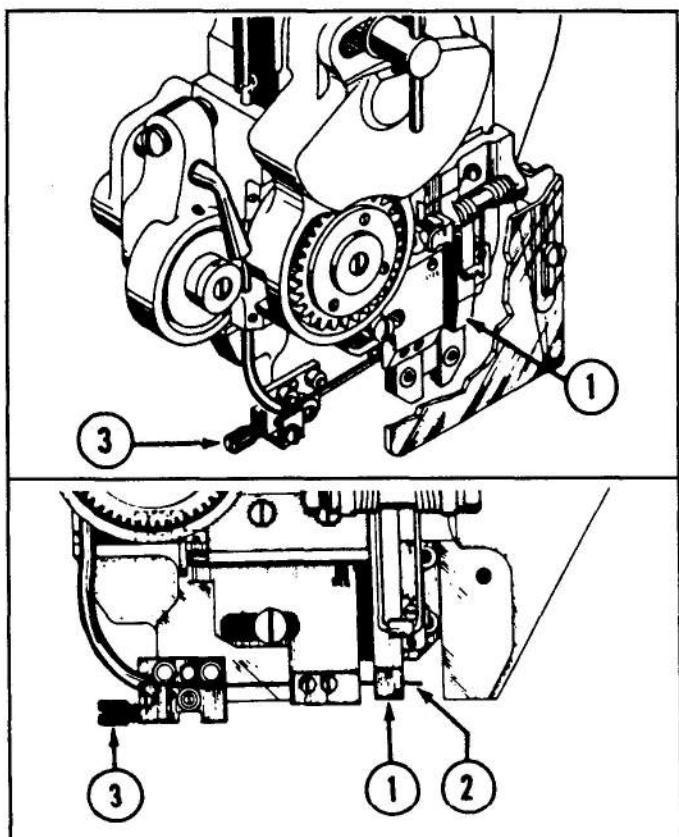

Figure 3 — Straightening Wire on Head
## 2. HOW TO STRAIGHTEN WIRE ON HEAD (See Fig. 3)
a. After wire has been threaded into head, as directed in para. 1, immediately preceding, turn over machine by hand until wire has been cut and is being held by the gripper (1). Observe that the wire length being held by the gripper does not curl upward or downward; the cut wire length should be as close to a straight line as possible, as shown at (2) in insert in Fig. 3.